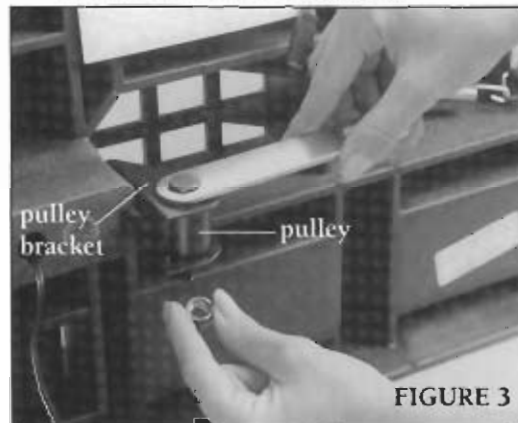

FIGURE 3
11. Insert the 2" bolt through the pulley bracket and pulley. The head of the bolt should be on top of the bracket (Figure 3).